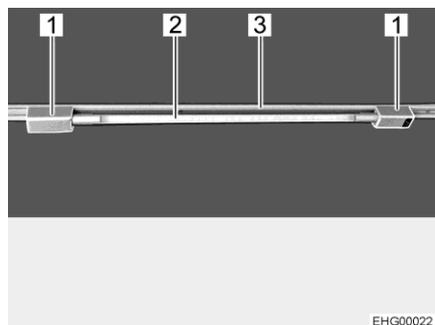

Fig. 44 Fluorescent tube
- Insert both brackets (Fig. 44,1) into the rail (Fig. 44,3). In order to do this, turn bracket through 90°.
- Plug lamp body (Fig. 44,2) into one of the brackets.
- Turn lamp body handle (Fig. 44,2) until the desired lighting effect is achieved.